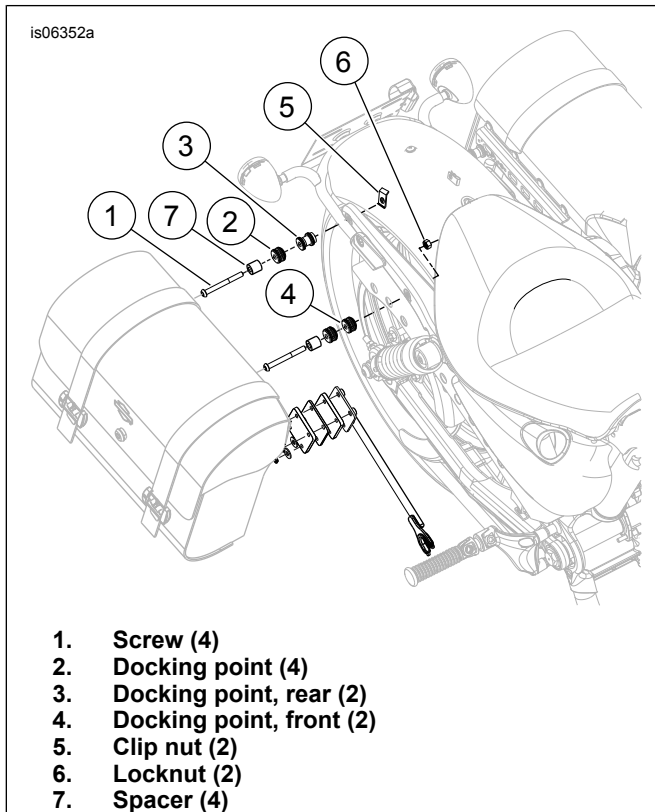
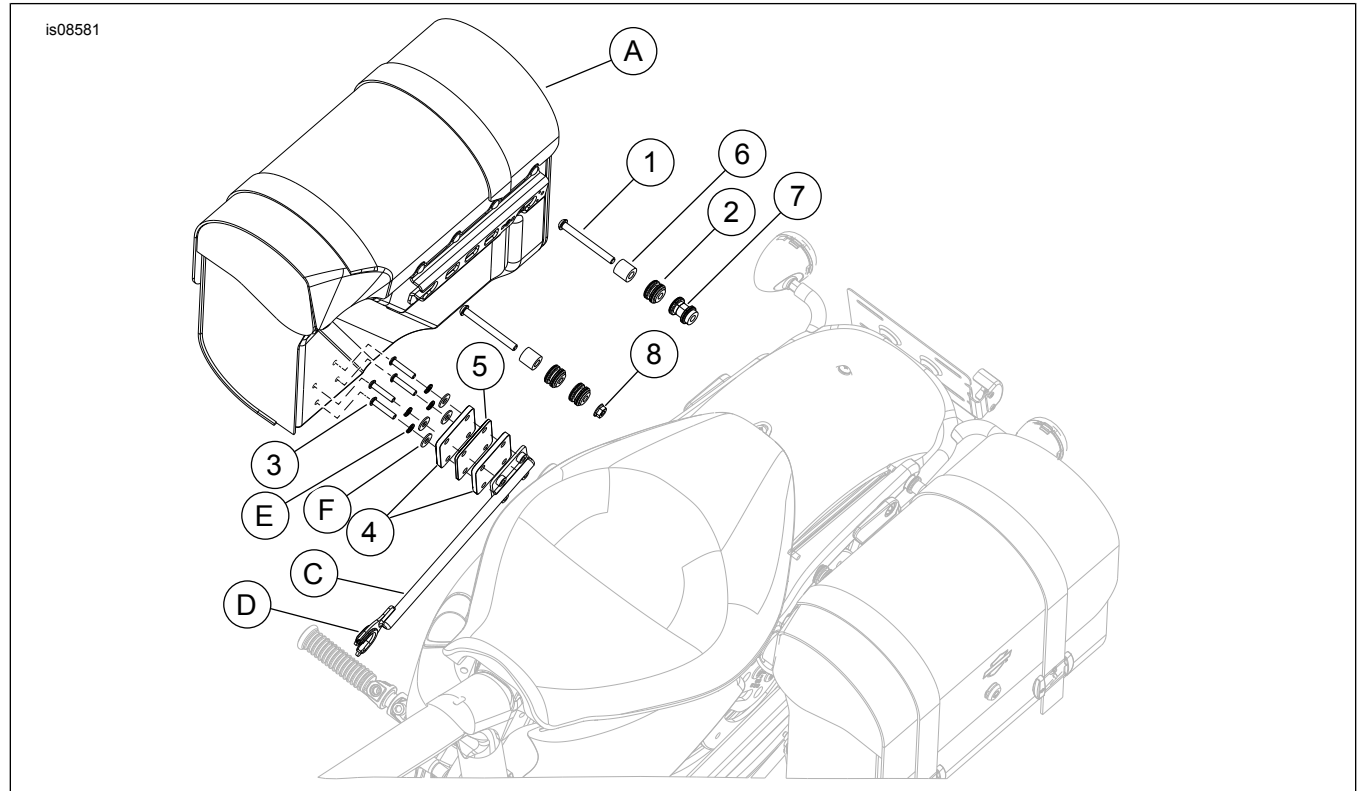

Figure 2. Docking Hardware Stack-Up
Figure 3. Service Parts: Docking Hardware
See Figure 3 and Table 1.
1. See Figure 2. Obtain a screw (1), front docking point (4), spacer (7) and locknut (6) removed earlier. Note the small diameter collar on one end of both docking points. **For bikes with additional detachable kits:** Use docking points (2) in place of spacer (7) for both front and rear installations.
4. Obtain a spacer (7), screw (1) and rear docking point (3) from the kit and clip nut (5) removed earlier. Note the small diameter collar on one end of both docking points. **For bikes with additional detachable kits:** Use docking points (2) in place of spacer (7) for both front and rear installations.
8. See Figure 3. Obtain four screws (3), two spacers (4), (1/4 in (6.3 mm) thick) and one spacer (5), (1/8 in (3.2 mm) thick) from the kit and support arm (C), four lockwashers (E) and four flat washers (F) from saddlebag kit 90201328.